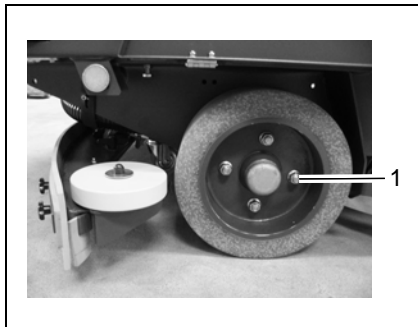

Fig. 34
- The wheel nuts on the rear wheels (Fig. 34/1) must be subjected to their first check after 100 operating hours and subsequently every 200 hours.
The tightening torque for the wheel nuts (Fig. 34/1) is 140 Nm.
- Remove the wheel nuts (Fig. 34/1).
- Screw on and tighten the wheel nuts (Fig. 34/1).